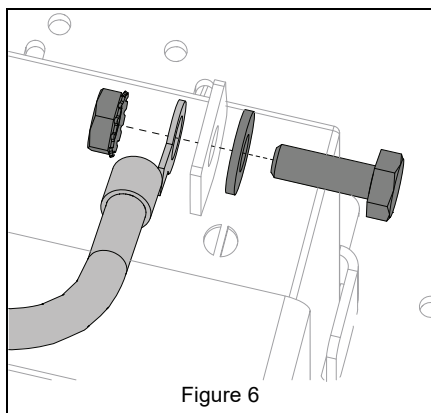

Figure 6
2. Secure negative battery cable to the negative battery terminal using hardware removed in step 1. See Figure 6.